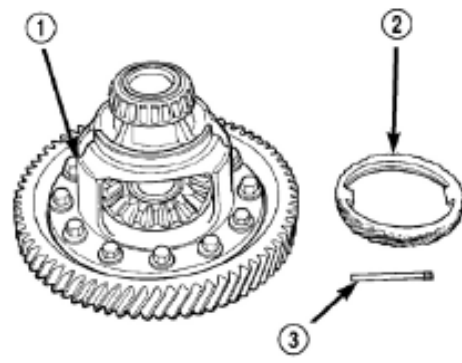

Figure 3-87 Disassembly of bumper pin
(4) Punch out pinion axle bumper pin with hammer and punch (Figure 3-86and Figure 3-87).